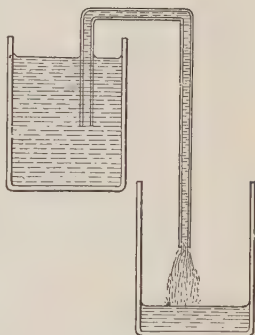

FIGURE 112.—SIPHON IN ACTION.
**EXPERIMENT 31.** — Fill a glass siphon with water, and, keeping the lower end of the longer arm closed with the thumb, place the other arm in the water of a battery jar. Remove the thumb. (Figure 112.) *What happens? When does the water stop flowing?*